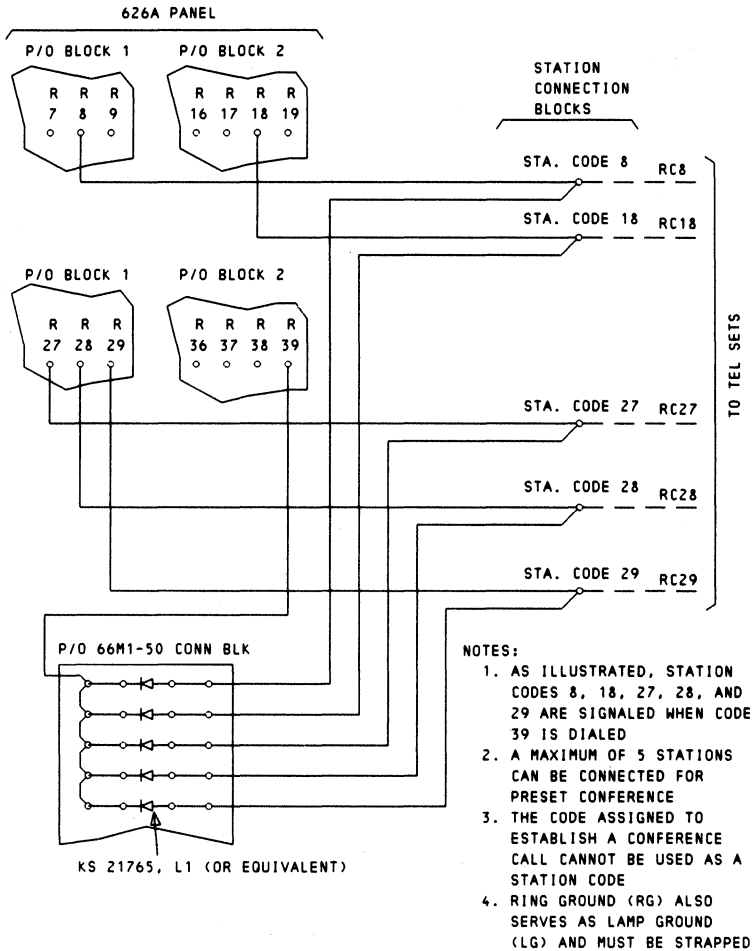

Fig. 16—Typical Preset Conference Arrangement
4.15 To connect preset conference, a lead is strapped from the R() terminal of the designated code to an external 66-type connecting block for distribution, via diodes (5 maximum), to the signaling leads of the selected conference stations. A typical preset conference arrangement is shown in Fig. 16. As illustrated in Fig. 16, stations 8, 18, 27, 28 and 29 are signaled when code 39 is dialed. In this arrangement, code 39 cannot be used as a station code.